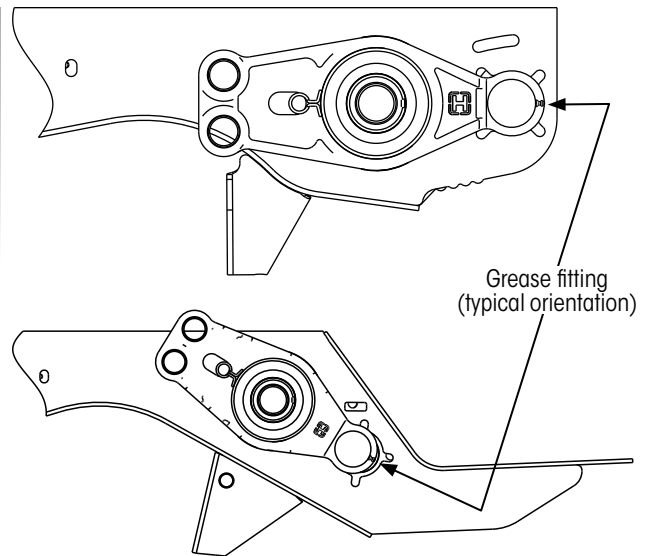

Figure 24: Accessible grease fitting orientation
4. **Rotate** the cam tube so the grease fitting is accessible (either pointing downward or to the rear) when the drums are installed (Figure 24).